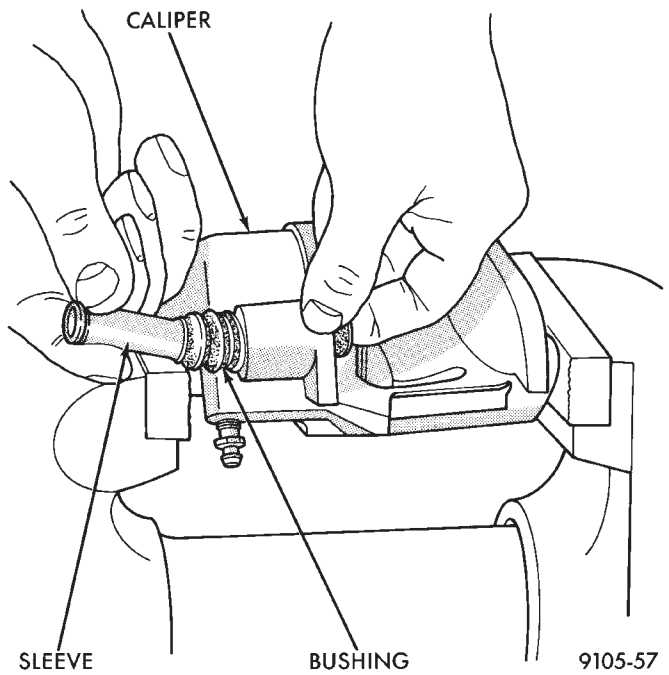

Fig. 3 Removing Inner Sleeve
(1) Push out and then pull the inner sleeve from inside of the bushing using your fingers as shown in (Fig. 3)